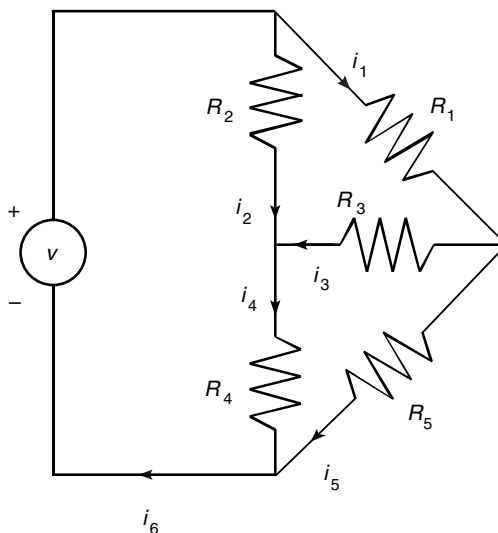

Figure P4
4. The circuit shown in Figure P4 has five resistances and one applied voltage. Kirchhoff's voltage law applied to each loop in the circuit shown gives